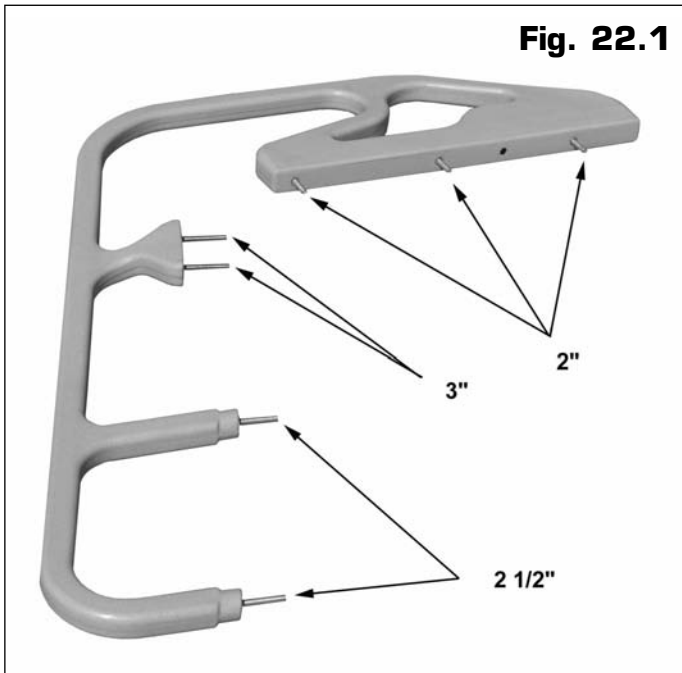

Fig. 22.1
Each handrail utilizes (7) 5/16" allthreads in three different lengths from hardware kit G4C-105. See Fig. 22.1 & 22.2. Ensure the correct length of allthread is used at each location as shown in Fig. 22.1 & 22.2. Hand tighten ONLY. Do not use a wrench or mechanical means of tightening the allthreads into the handrails.